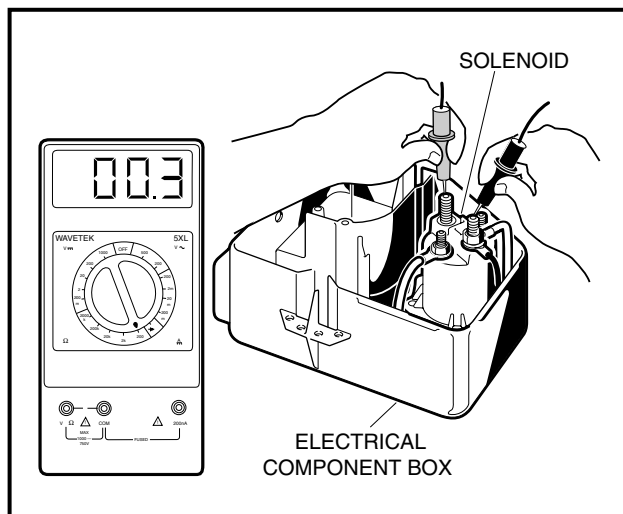

Figure 11-31 Test Solenoid Continuity
6. Set the multimeter to 200  $\Omega$  (ohms). Connect the red (+) probe to one of the large posts of the solenoid and connect the black (-) probe to the other large post (**Figure 11-31, Page 11-29**).